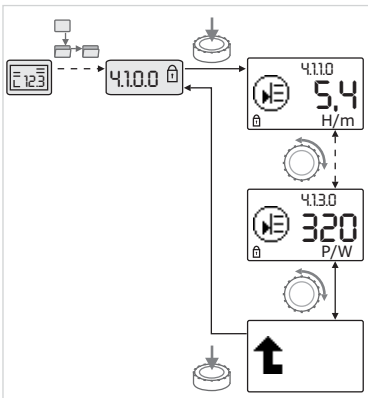

Fig. 40: Calling up information
- Turn the operating button to access the “Information” menu elements in the current sub-menu (see Fig. 40). For an explanation of the settings represented by the symbols, see the table in chapter 8.7 “Menu elements reference” on page 37.